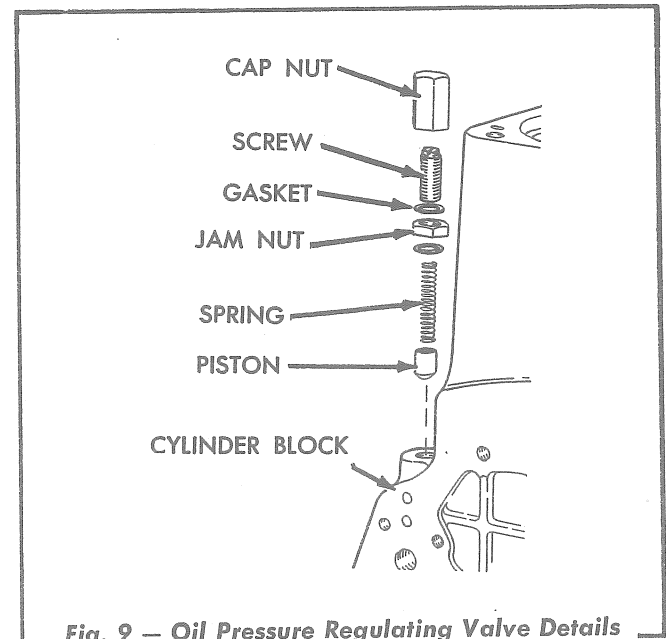

Fig. 9 — Oil Pressure Regulating Valve Details
Stabilized oil pressure is maintained within the lubricating system by an oil pressure regulating valve Fig. 9 located in the main oil gallery at the right front corner of the cylinder block. When conditions are such that the oil pressure at the regulating valve exceeds approximately 55 P.S.I., the valve piston is raised off the valve piston seat and the excess oil is by-passed.
1. Refer to Fig. 9 and remove the pressure regulating valve cap nut and valve nut gasket.
piston and valve spring (Fig. 9) in position in the cylinder block.